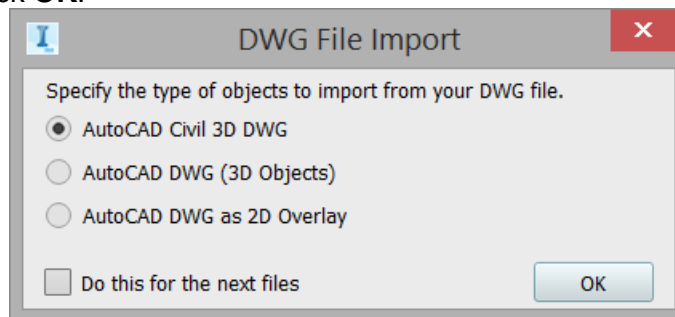

Figure 24
4. In the DWG File Import dialog box, select AutoCAD Civil 3D DWG to bring in the AEC objects, then remove the check from the option to “Do this for the next files”, as shown in Figure 24. Click **OK**.